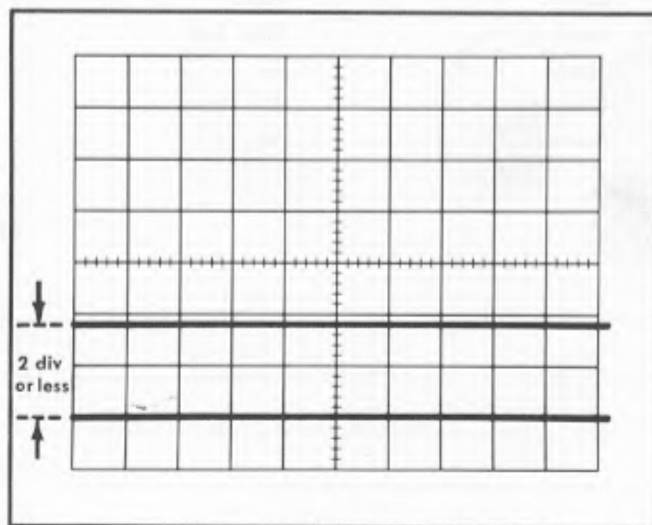

Fig. 5-17. Checking the VARIABLE control 2.5-to-1 uncalibrated range.
b. When the VARIABLE control is set fully counterclockwise, check the amplitude of the display. It should be 1.6 div or less (see Fig. 5-17). This indicates a ratio of 2.5 to 1 or higher. For example, the amplitude of the display shown in Fig. 5-17 is 1.8 div which indicates a ratio of 2.78 to 1 ($5 \div 1.8 = 2.78$) which is higher than 2.5 to 1.